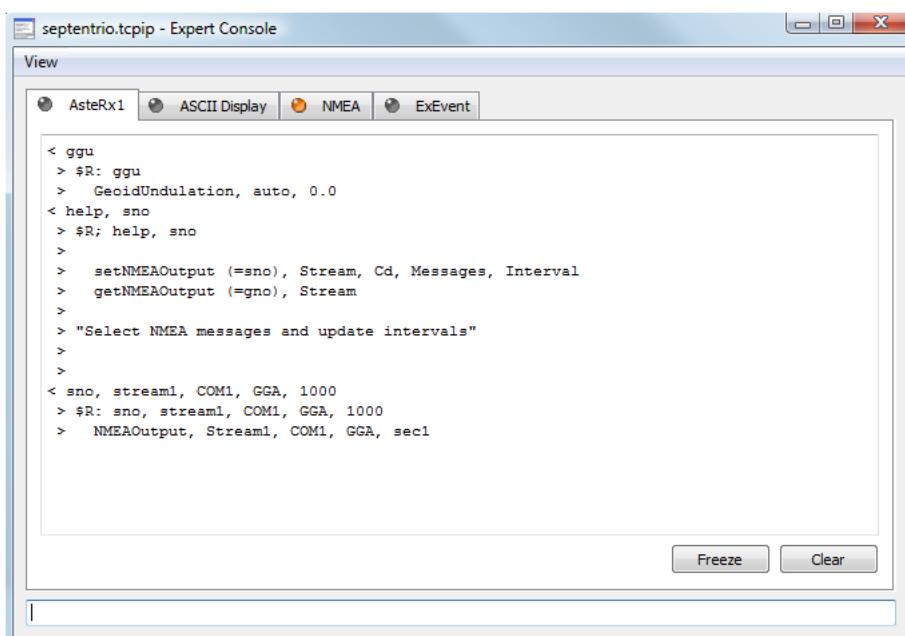

Figure 2-41: The Expert Console displaying its Receiver Communication tab
- At the bottom of the Expert Console is the **command line** (see Figure 2-41) used for sending commands to the Septentrio Receiver. The command line is explained in more detail in Section 2.6.1.
The Receiver Commands tab of the Expert Console is the first tab and forms the central communication channel with the Septentrio Receiver for the expert user. The window is split up in the **message area** and the **command line** (see Figure 2-41). The expert user enters his/her commands on the command line, sending them to the Septentrio Receiver by pressing the `Enter` key. The message area displays the commands entered and the replies received from the Septentrio Receiver.